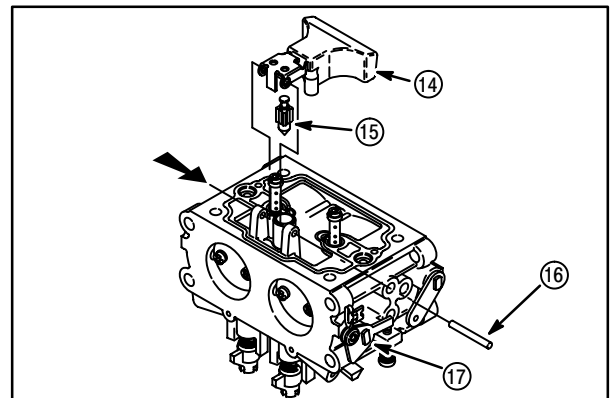

Fig. 64
7. Drive out float hinge pin (16) from side OPPOSITE throttle lever (17). Remove float (14) and fuel inlet needle (15) assembly, **Fig. 64**.